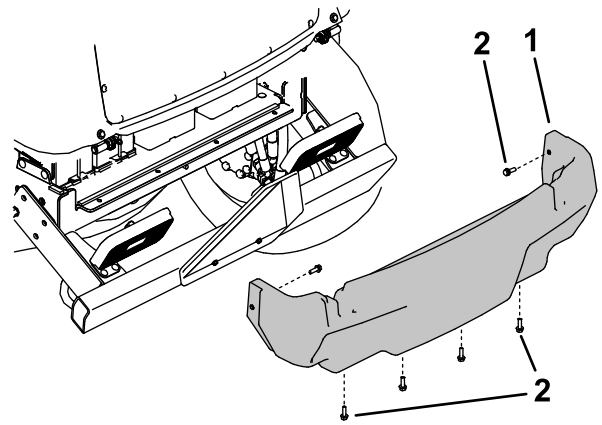

**Figure 101**
4. Loosen the knobs and remove both side shrouds (Figure 101).
5. Install the side shrouds (Figure 101).